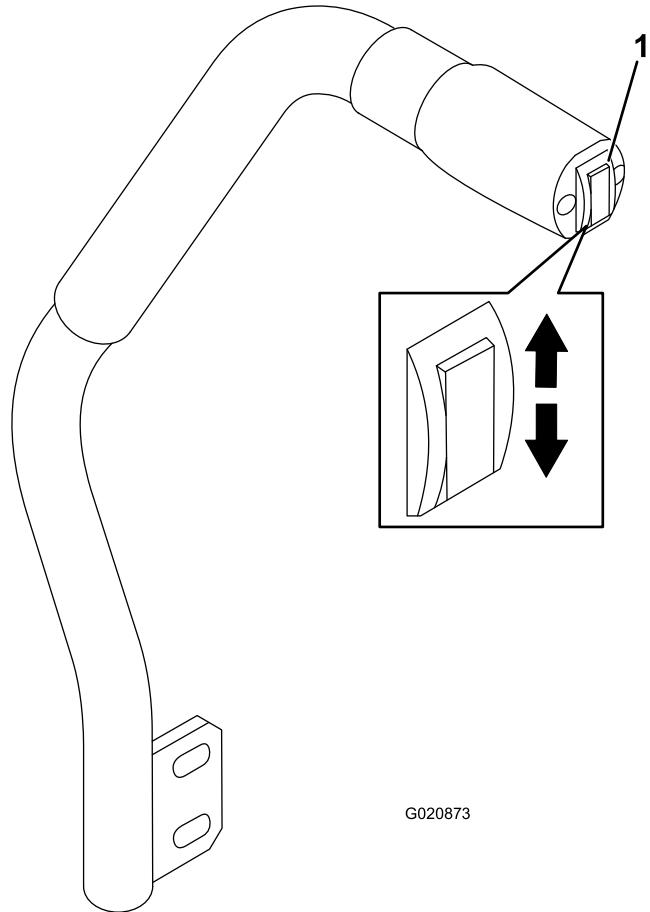

Figure 23
The deck-lift switch raises and lowers the cutting unit (Figure 23). The engine must be running for you to use this lever.
- To lower the cutting unit, push the deck-lift switch down (Figure 23).
- To raise the mower deck, push the deck-lift switch up (Figure 23).
1. With the engine running, push the deck-lift switch up until the cutting unit is fully raised and **release the switch immediately** (Figure 23).